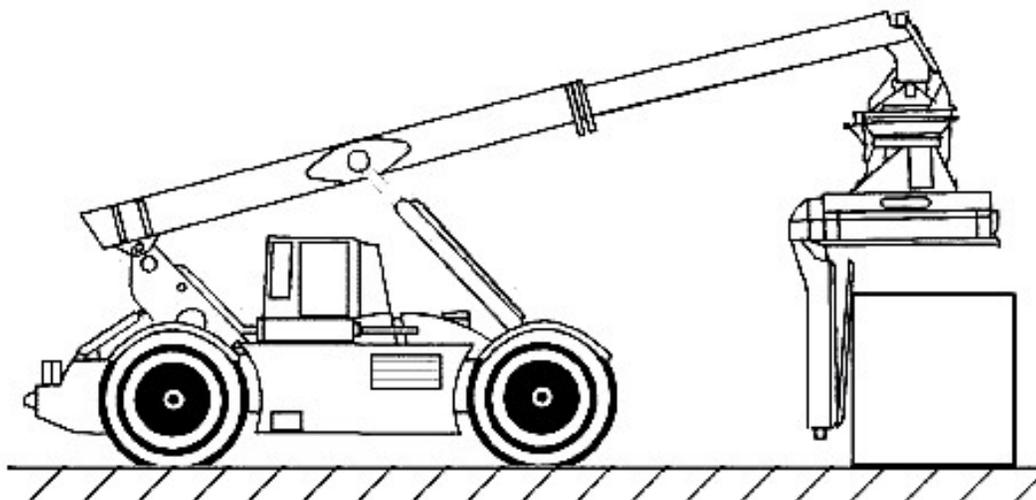

Figure 3-177
9. Retract the boom and position the truck in front of an ISO container or loading dock (see Figure 3-177).